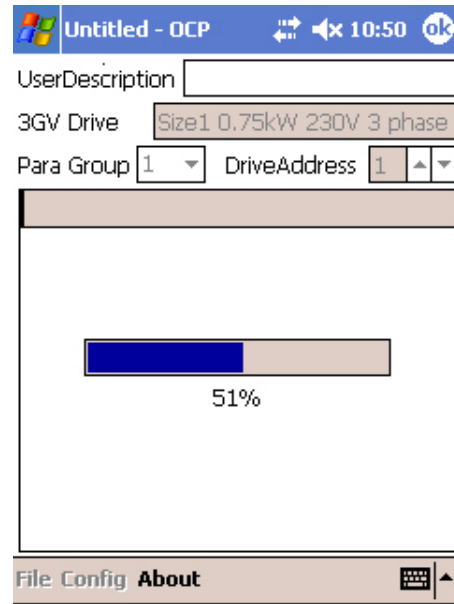

Figure 5
8. A progress indicator in the Pocket PC application window provides an indication as to how much of the file has been transferred as shown in Figure 5. Usually data transfer will be complete within approximately 20s.
6. A progress indicator in the Pocket PC application window provides an indication as to how much of the file has been transferred as shown in Figure 5. Usually data transfer will be complete within approximately 15s.